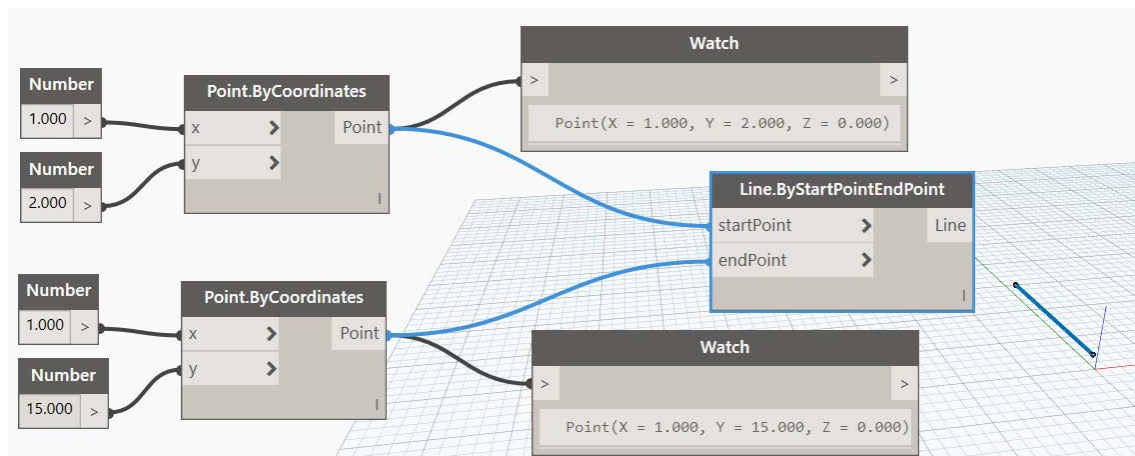

Figure 19
22. Wire these to the **Line.ByStartPointEndPoint** node to create a line (see Figure 19).